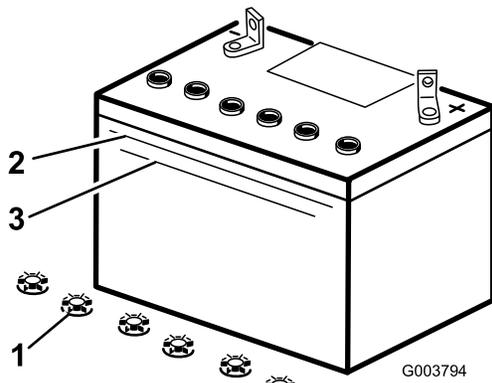

Figure 41
3. Look at the side of the battery. The electrolyte must be up to the Upper line (Figure 41). Do not allow the electrolyte to fall below the Lower line (Figure 41).
5. Remove the filler caps from the battery (Figure 41).
6. Slowly pour distilled water into each battery cell until the electrolyte level is up to the Upper line (Figure 41) on the battery case.
7. Wait 5 to 10 minutes after filling the battery cells. Add distilled water, if necessary, until the electrolyte level is up to the Upper line (Figure 41) on the battery case.